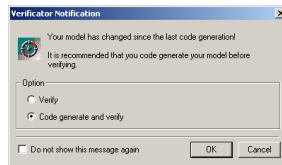

Figure 109: Vericator notification
- 4 If your model has been changed, the message shown in *Figure 109*, page 139 will be displayed, unless you have turned off the option *Show notification if model has*